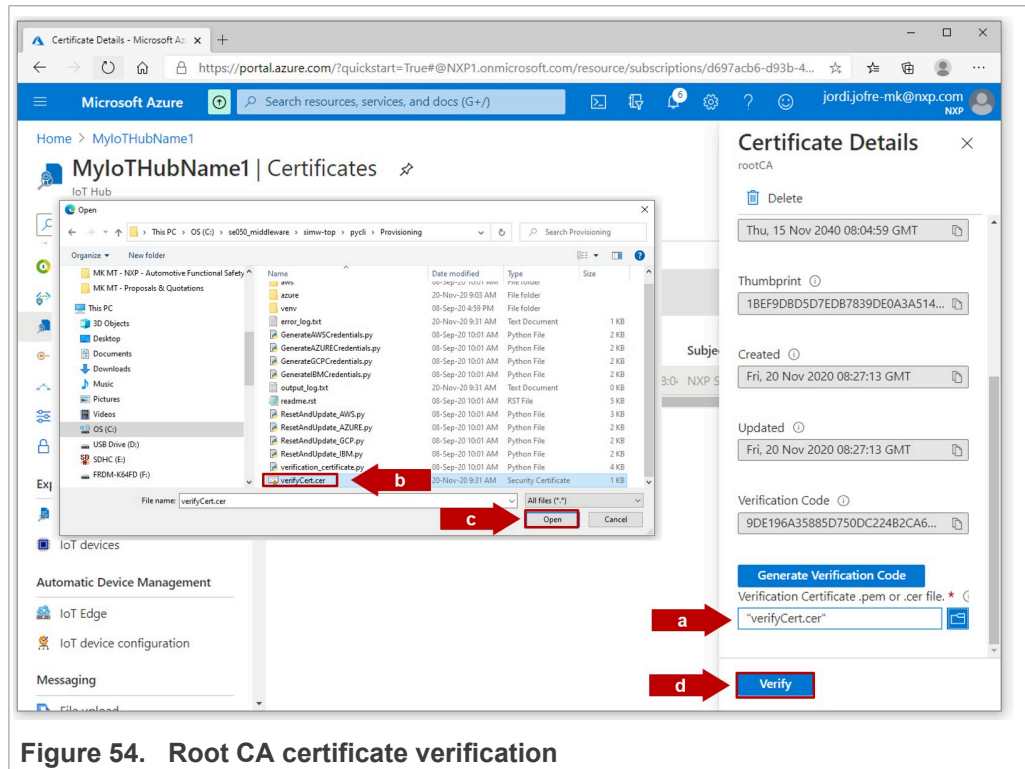

Figure 54. Root CA certificate verification
1. In the Azure IoT Hub portal, do as shown in Figure 54: